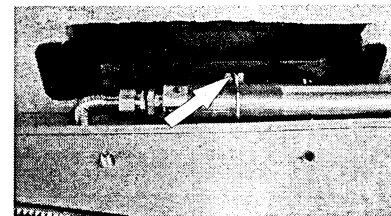

FIGURE 10C
- MODEL #936 DV:** Secure burner cover with the remaining (2) nuts previously removed.
- MODEL #936 DV:** To position the adjustable venturi collar into its mounting bracket, gently push the bracket back far enough to slip the flange on the collar into the slot on the bracket. Figure 10C.